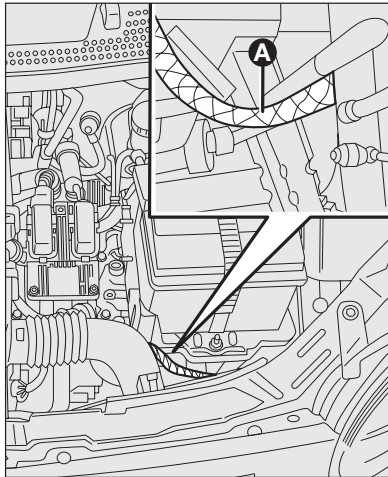

fig. 1a - Duratec versions
- With a second lead, connect the negative terminal (-) of the auxiliary battery to an earthing point **A** of the car to be started (shown in **fig. 1a-1b**);